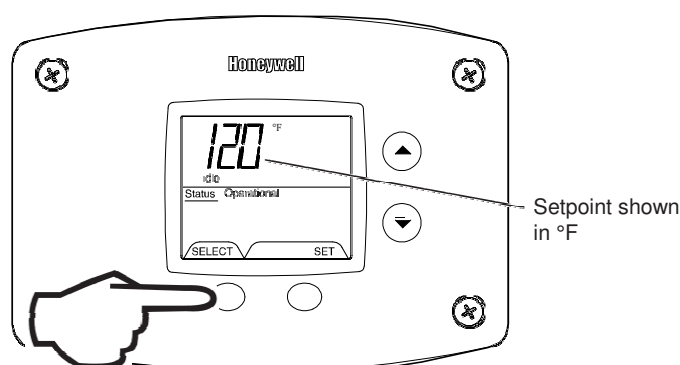

Fig. 24
5. Pressing 'SELECT' button will return display to setpoint in format selected (°F or °C) immediately (Fig. 24).